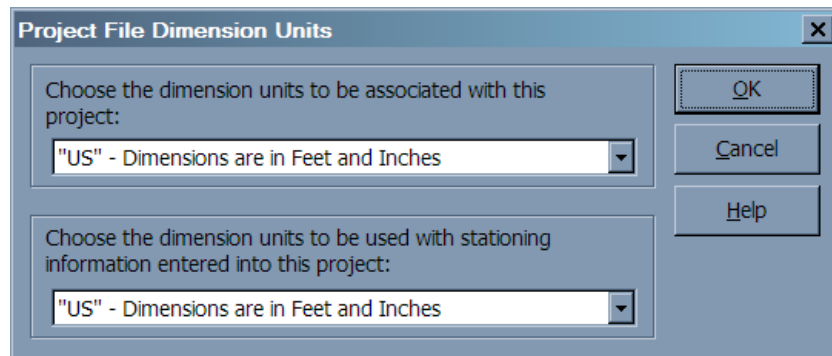

Figure 2.3: Project File Dimension Units Dialog
1. Choose Project > Dimension Units. This displays the Project File Dimension Units dialog, (shown in Figure 2.3).